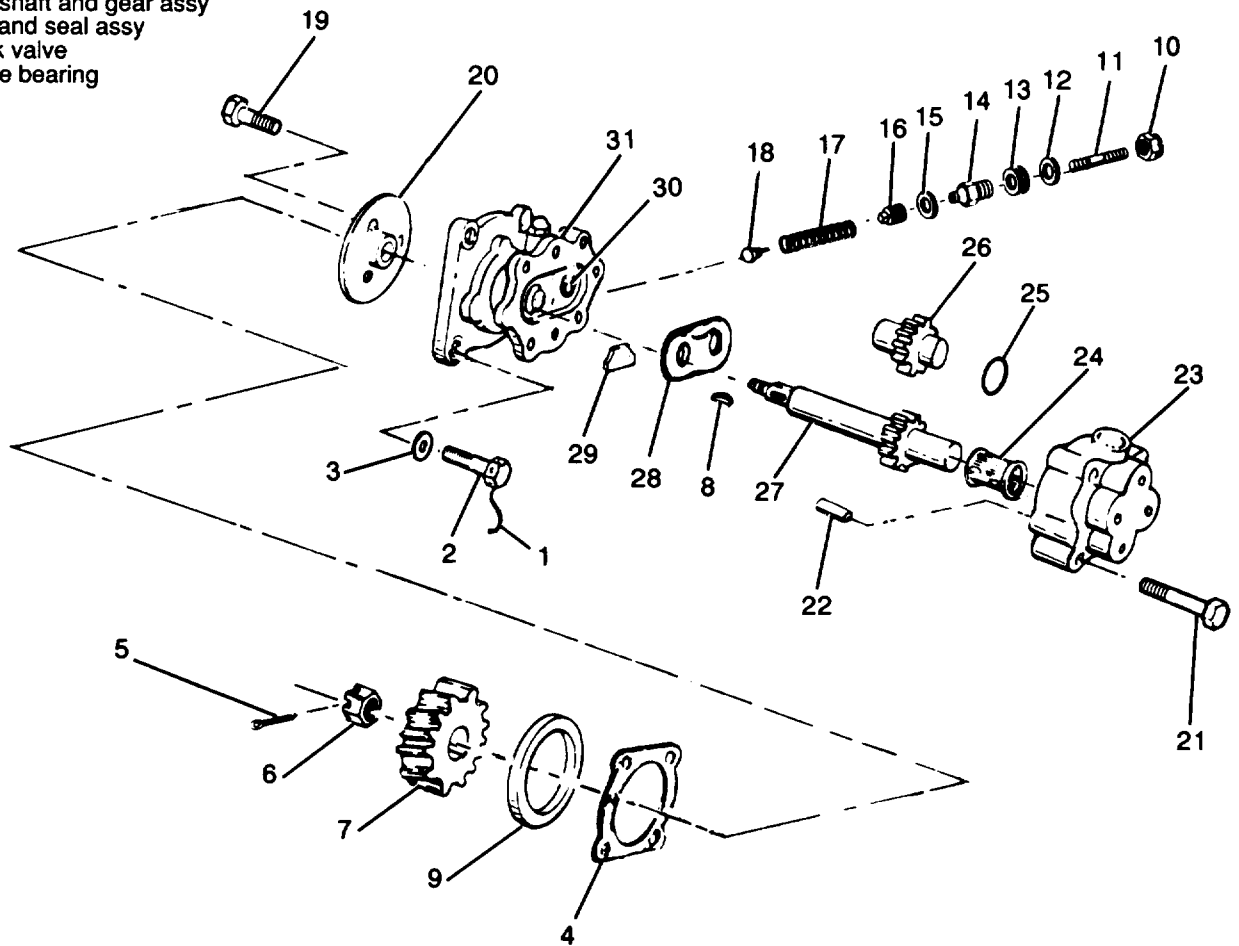

Figure 3-34. Hydraulic Pump Assembly, Exploded View
- (1) Refer to the Operator and Unit Maintenance Manual and drain the hydraulic sump.
- (2) Remove hydraulic lines and fittings from hydraulic pump assembly.
- (3) Remove lockwires (1, figure 3-34), screws (2) and flat washers (3) to remove hydraulic pump assembly and gasket (4). Discard gasket.
- (1) Install hydraulic pump assembly on a suitable test stand and provide a means of rotating at approximately 600 RPM.
- (2) Connect a hydraulic line to pump assembly inlet.
- (3) Connect a hydraulic line equipped with a pressure gauge, and a restriction valve to the pump assembly outlet.
- (4) Operate pump at approximately 600 RPM.
- (5) Close restriction valve until pressure gauge reads  $320 \pm 10$  PSI. If  $320 \pm 10$  PSI is not obtainable, loosen locknut and adjust pressure relief valve screw until  $320 \pm 10$  PSI is reached.
- (6) Slowly close the restriction valve while observing the pressure gauge. The pressure should drop. If not, continue to adjust pressure relief valve screw until pressure does drop.
- (7) Loosen locknut and adjust pressure setscrew (11, figure 3-34) until pressure gauge indicates  $320 \pm 10$  psig.
- (8) Tighten locknut and remove hydraulic pump assembly from test hookup.